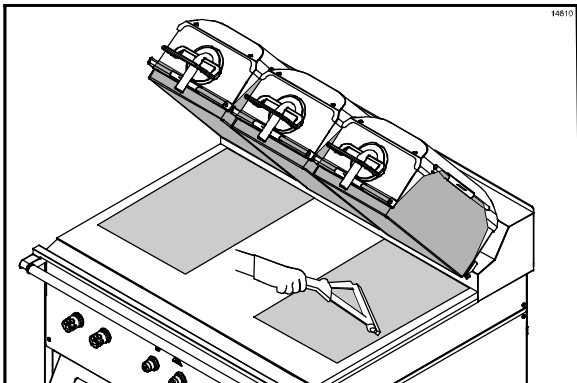

Figure 19
10. Repeat the last two steps for the release sheet on the other side of the grill. (See Figure 19.)